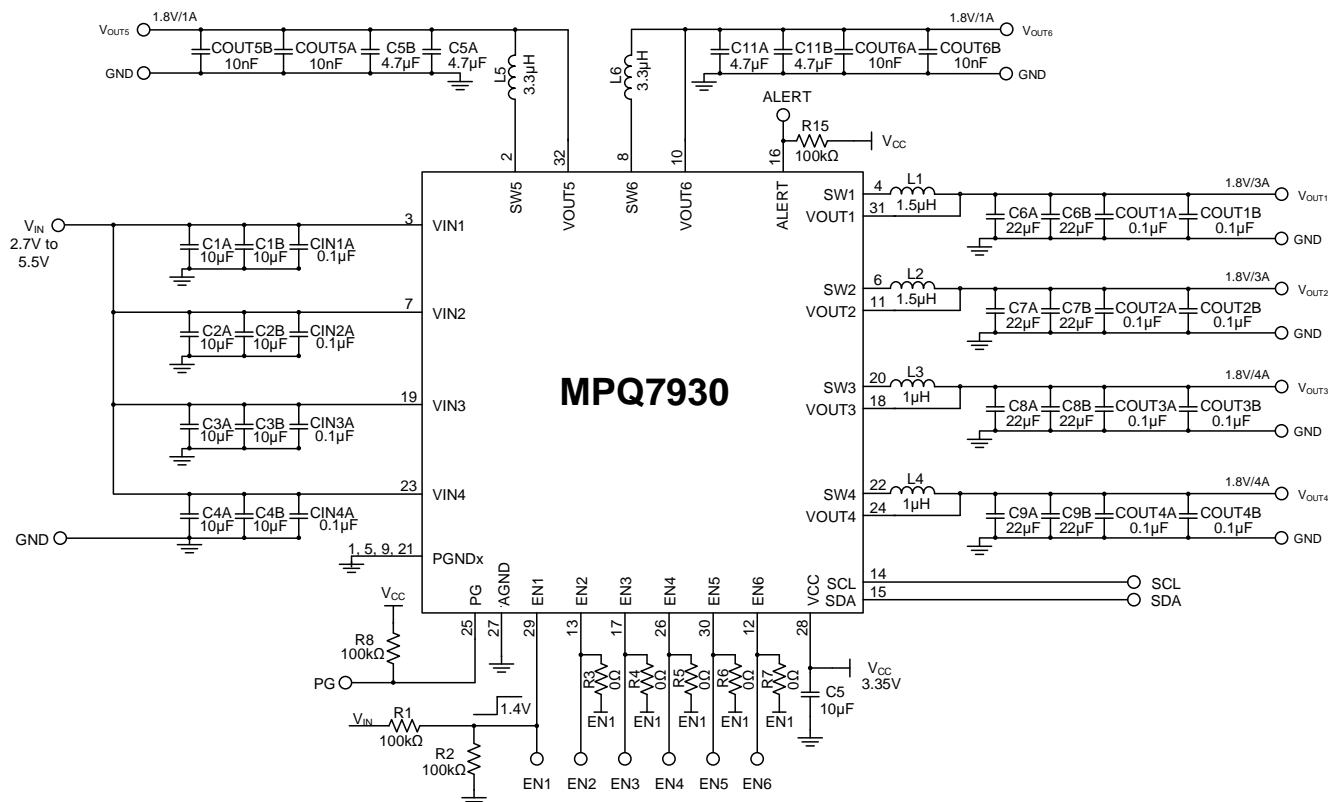

Figure 12: Typical Application Circuit ($V_{OUT1-6} = 1.8V$, $f_{sw} = 2MHz$)
Figure 12 shows the MPQ7930's typical application circuit.
- 12) The recommended PCB layout is based on Figure 12 on page 53.